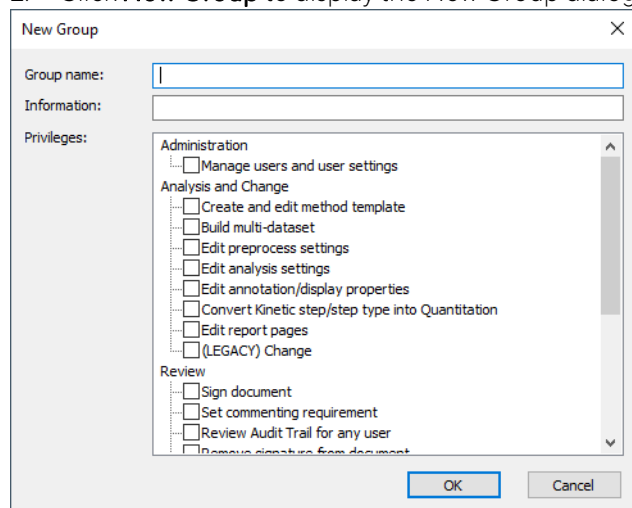

Figure C-13: New Group Dialog Box
- Click **New Group** to display the New Group dialog box (Figure C-13).